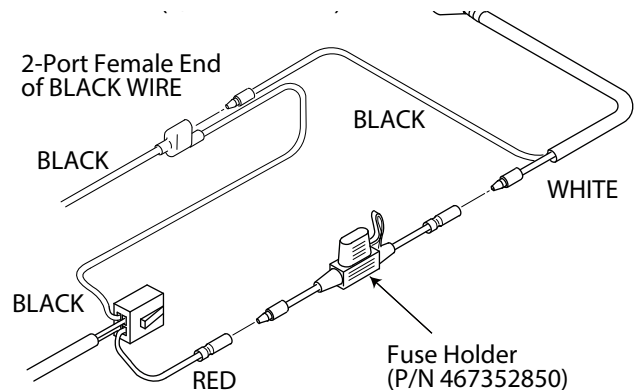

Figure 21. Wire Harness Connections
- Connect the male end of white wire of wire harness (P/N 467358210) to the female end of fuse holder (P/N 467352850). Then, connect the male end of fuse holder to the female end of red wire earlier. See Figure 21.
- Connect the male end of black wire of wire harness (P/N 467358210) to the free side of 2-Port female end of black wire. See Figure 21